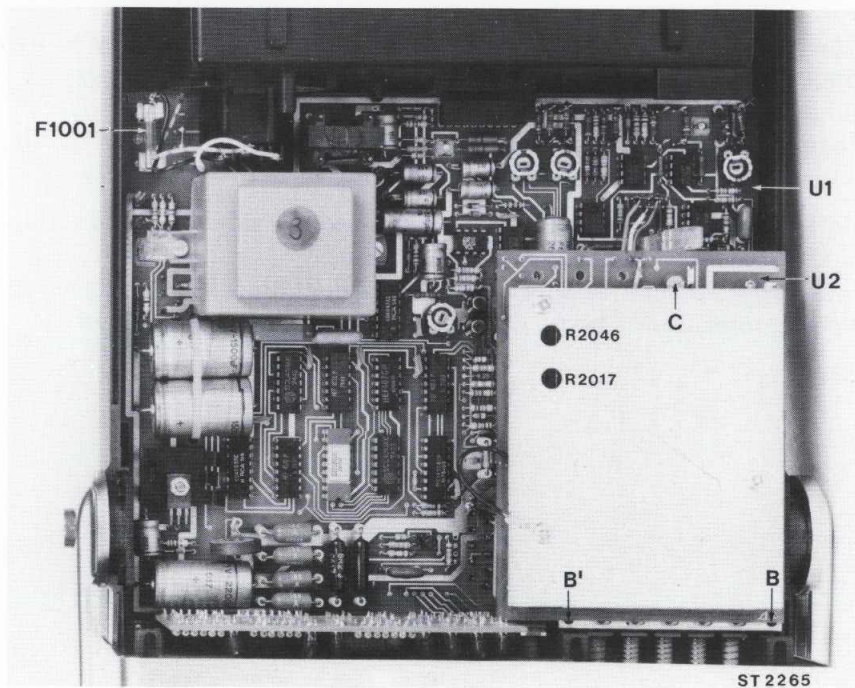

Fig. 30. Removing printed circuit board U2
- Remove screw "C" (Fig. 30, page 58)
- Remove screw "B" and "B'" (Fig. 30) out of the front panel.